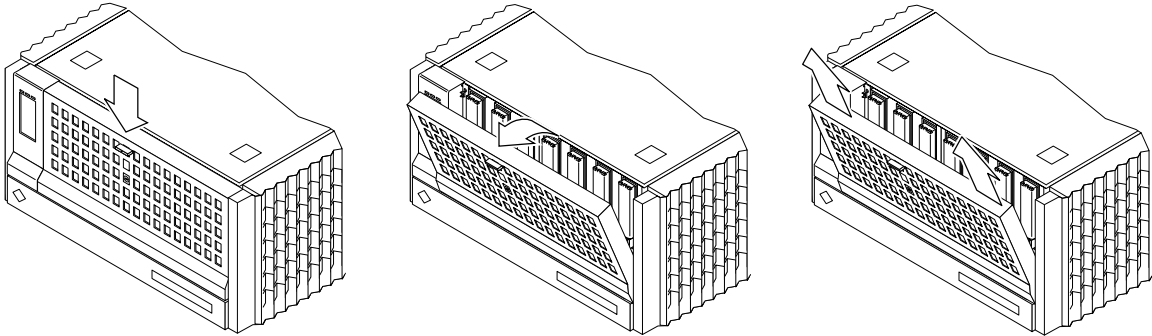

FIGURE 7-7 Removing a Door
1. Remove the door (FIGURE 7-7).